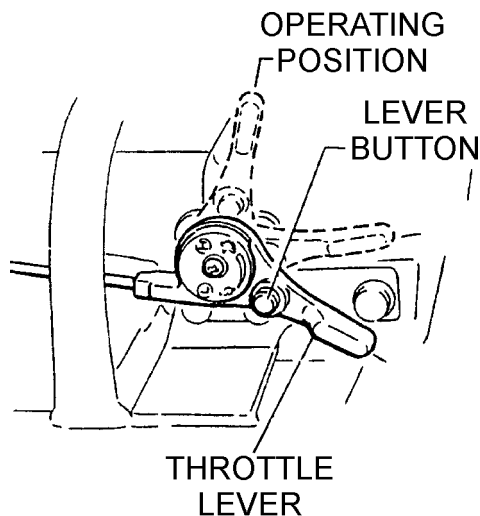

Figure 9. Throttle Lever (Start Position)
1. To start the rammer tamping action, move the throttle lever (Figure 9) **quickly** from **IDLE** to the **OPERATION** position. **DO NOT** move the throttle lever slowly as this may cause damage to the clutch or spring.